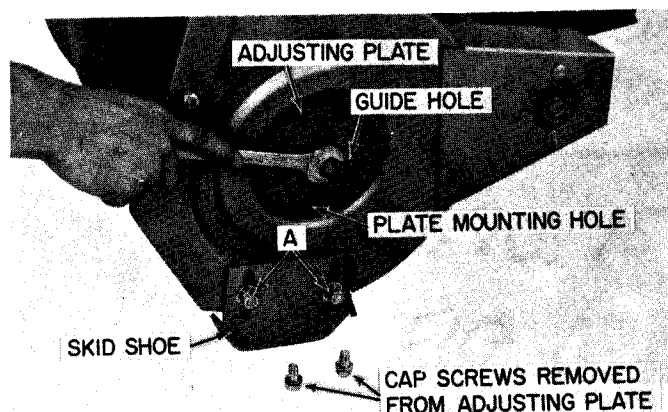

FIGURE 15
2. The runners, Figure 15, are mounted on slotted holes to provide the desired clearance between the base of the auger housing and the surface of the area to be cleared. When operating on a smooth surface such as cement or asphalt, the runners can be set at the lower end of the slots as shown. When operating on a rough surface such as
Remove two cap screws from the adjusting plates on each end of the auger, Figure 15. Place a wrench on the nut welded to the left hand adjusting plate and rotate the plate until proper chain deflection is achieved and the plate mounting holes align with the holes in the auger housing. Rotate the right hand adjusting plate an equal amount. The guide hole shown in Figure 15 is provided on each adjusting plate to assure that both ends of the auger are adjusted evenly.
4. The cutting edge shown in Figure 15 is both reversible and replaceable. If excessive wear is noticed after continued use, the eight mounting bolts can be removed and the plate reversed for double life.